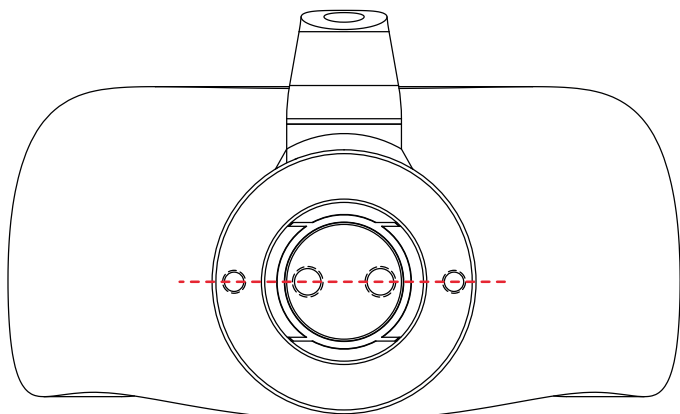

fig.4 Holes lining up
3. Secure the nozzle using the tab washer by bending it as shown in fig.4. Make sure that one side of the washer is bent over the milled half of the nozzle and the other is bent over the nozzle holder. **Incorrect tab washer installation can result in damage to the system and to downstream components.**